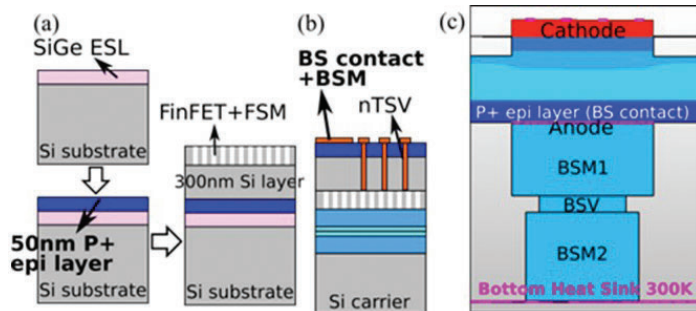
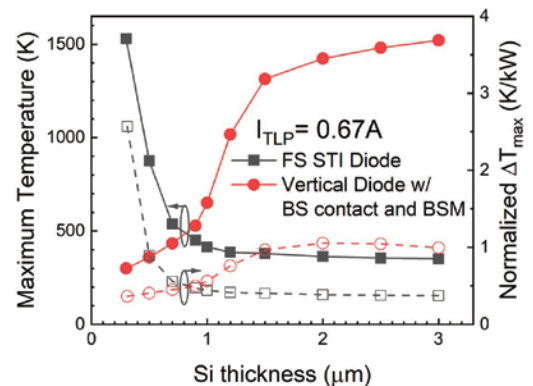

Figure 4
Figure 5
In response to these ESD challenges from substrate thinning and BS-PDN, active backside (BS) technology has been proposed by introducing a p+ epitaxial layer and BS contact patterning (Figure 4) [17]. The vertical diode can thus be enabled offering significant advantages, such as improved area efficiency and ESD current uniformity. Moreover, the vertical diode’s design facilitates better thermal dissipation by incorporating backside metal layers (BSM) as heat sinks (Figure 5). This simulation decouples the impact of heat dissipation from the frontside metals (FSM).